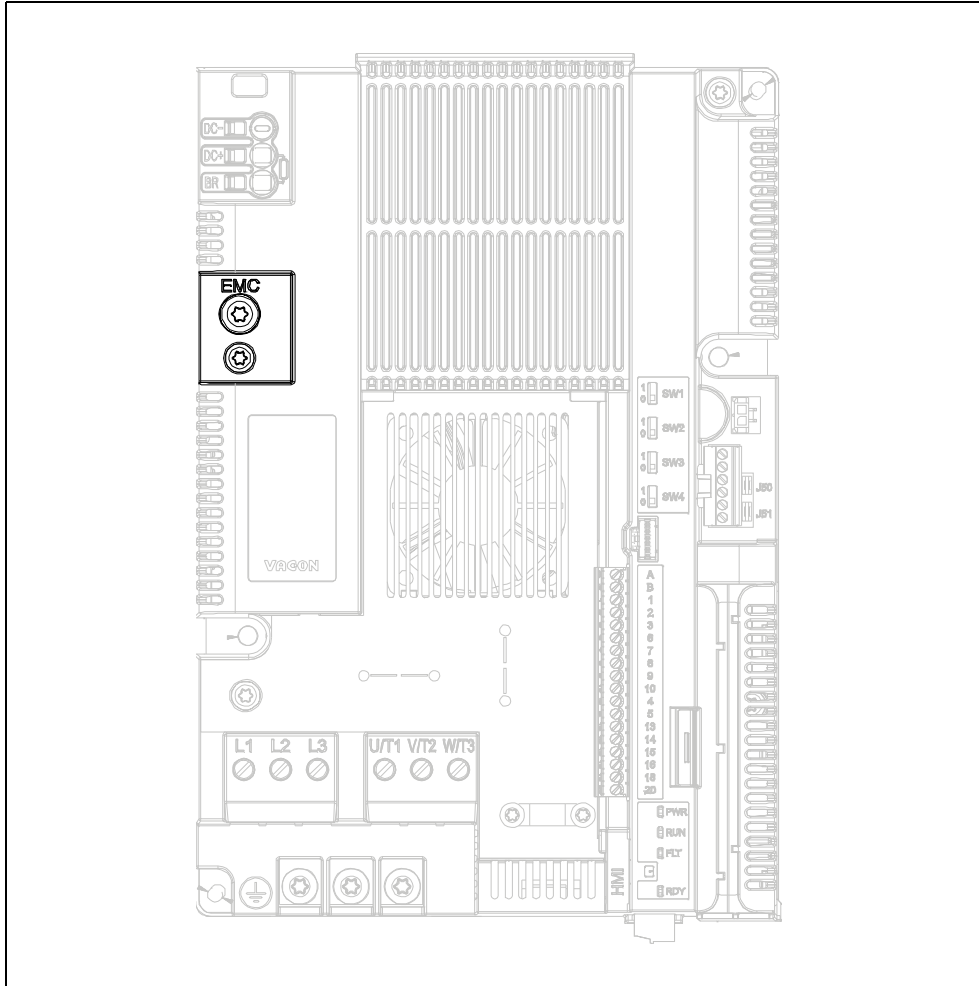

Figure 30. Changing the EMC class in the MS3.
**1** Remove the EMC screw as shown in the Figure 30.